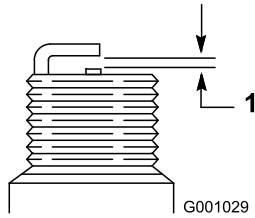

Figure 40
- Set the gap between the electrodes on a new spark plug at 0.76 mm (0.030 inch) as shown in Figure 40.